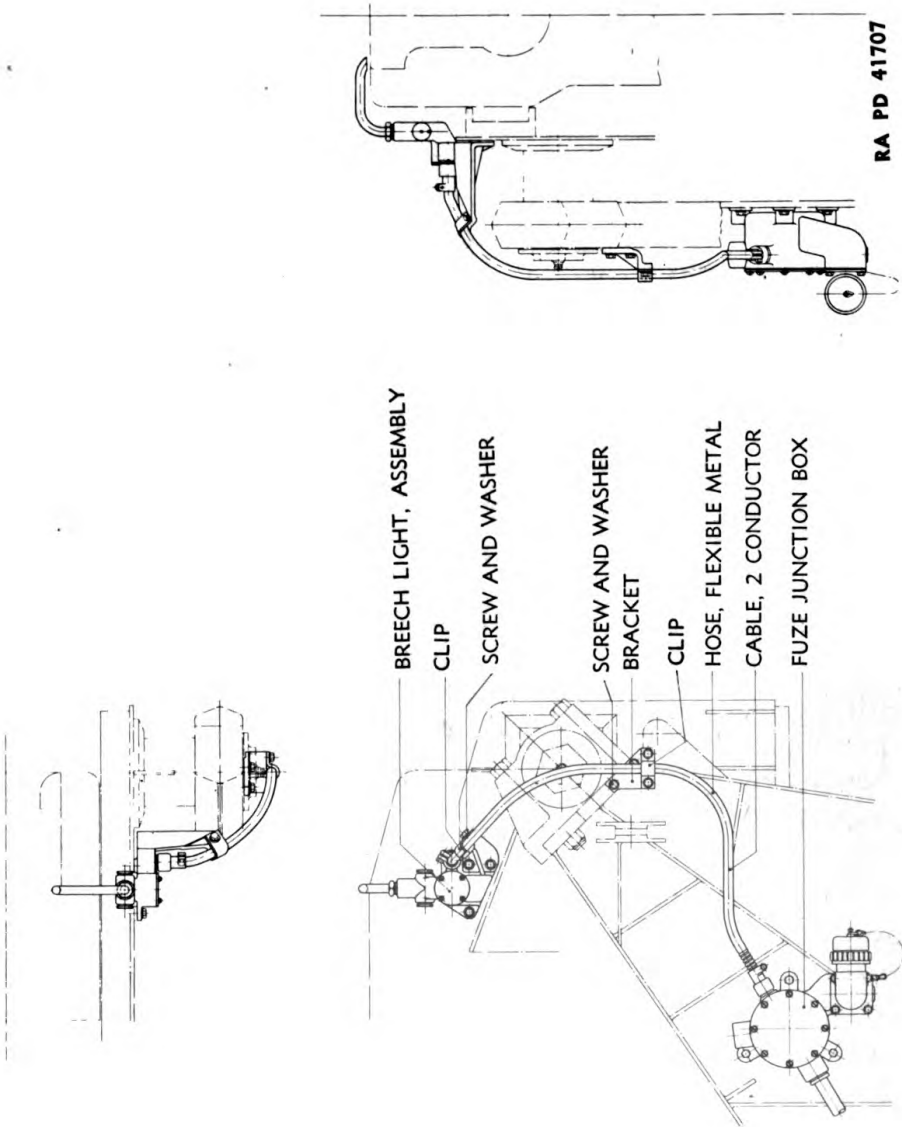

Figure 16 — Mounting of Breech Light on Gun Carriage
a. The breech light is mounted on the gun carriage as shown in figure 16. Assembled and sectioned views of the breech light are shown in figure 42.